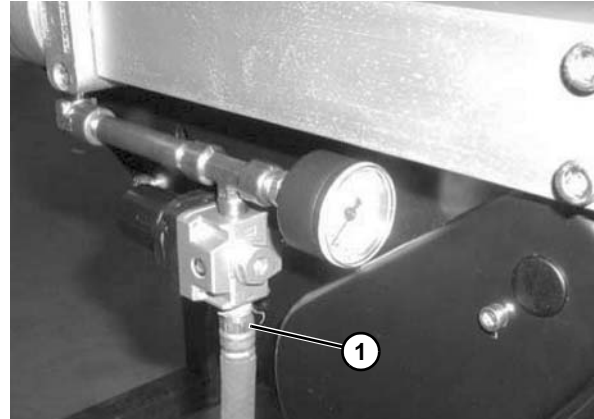

Figure 62
6. Reattach air supply (**Figure 62, item 1**) to center drive. Refer to “Center Drive Conveyor Belt Tensioning” on page 25” for more information.